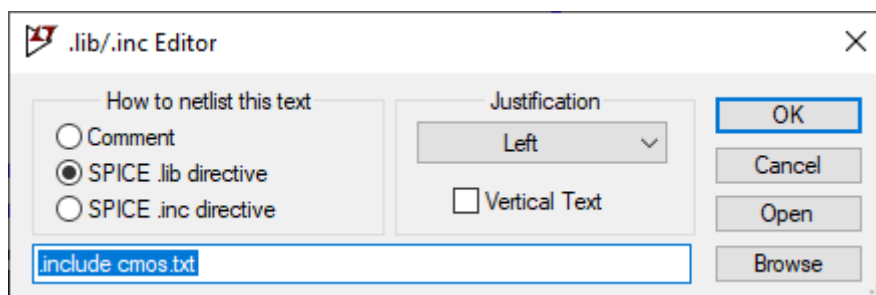

Fig. 2. Including cmos.txt
2. Click on SPICE directive `.op`, write: **.include cmos.txt** as in Fig. 2: